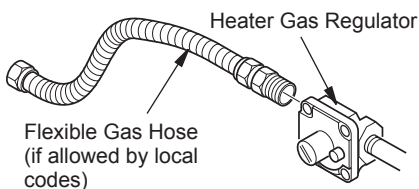

Figure 11 - Attaching Flexible Gas Hose to Heater Gas Regulator
1. Apply pipe joint sealant lightly to male threads of gas fitting (not provided). Connect approved flexible gas hose to regulator of heater (see Figure 11).